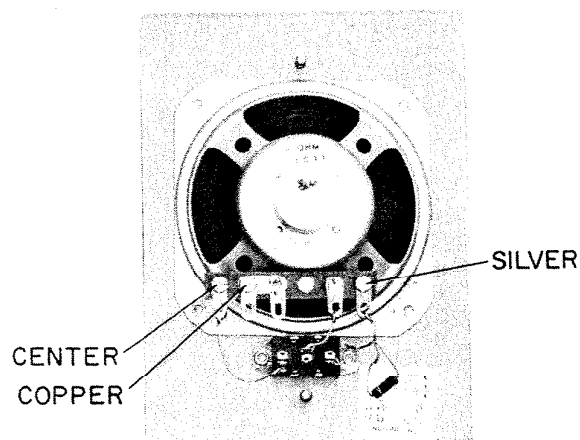

Fig. 2. Rear view of Model 2006B remote speaker station.
3. The leads of the 22-ohm resistor on the Model 2006B speaker station have been lengthened as shown in Fig. 2. This has been done so the leads can be twisted together to short out the 22-ohm resistor and allow maximum volume when the
Connect previously installed three-conductor wire to terminal board on rear of remote (Fig. 2) as follows: